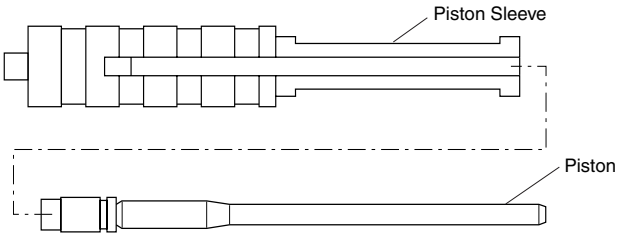

Figure 4 - Removing Piston From Piston Sleeve
- Remove piston assembly from piston sleeve (see Figure 4).